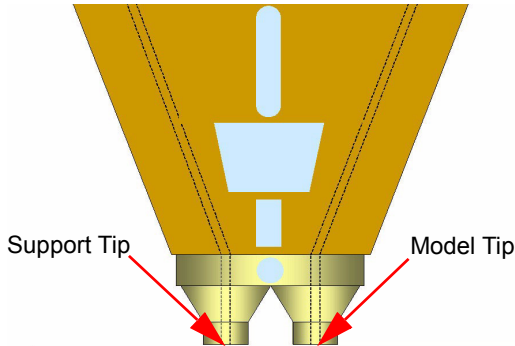

Figure 11: Close-up of extrusion tips
10. Watch the extrusion tips (see Figure 11 on page 35) to see if material extrudes (purges) after loading. The panel will then display **Did Material Purge?**